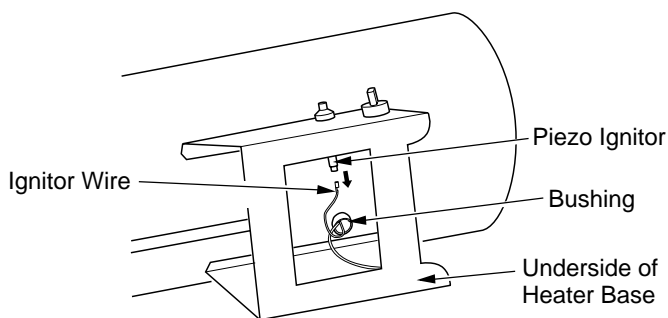

Figure 14 - Removing Ignitor Wire from Piezo Ignitor
| Heater will not ignite. | <ol style="list-style-type: none"> 1. User did not follow installation or operation instructions properly 2. No spark at ignitor. To test for spark, follow step 9 under Ignitor, page 9. If you see spark at ignitor, have heater serviced by qualified service person. If no spark seen: <ol style="list-style-type: none"> A) Loose or disconnected ignitor wire B) Wrong spark gap C) Piezo ignitor loose D) Bad ignitor electrode | <ol style="list-style-type: none"> 1. Repeat installation and operation instructions. See Installation, page 5 and Operation, pages 5 and 6 2. A) Check ignitor wire. Tighten or reattach loose ignitor wire. See Figure 14, page 9 for ignitor wire location B) Set gap between ignitor electrode and target plate to .17" (4,3 mm) C) Tighten nut holding piezo ignitor to base of heater D) Replace ignitor electrode. See Ignitor, page 9 |
2. Remove black ignitor wire from piezo ignitor. Access ignitor wire through underside of heater base (see Figure 14). Push wire up through bushing in heater shell.